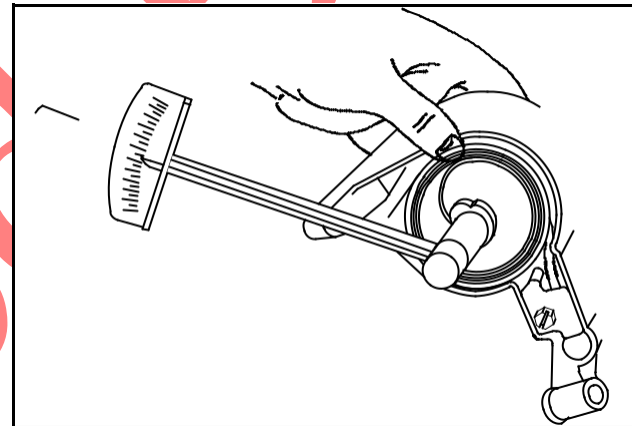

Fig. 63
12. Torque to 75 to 90 in. lbs. (9 to 10 Nm), Fig. 63.